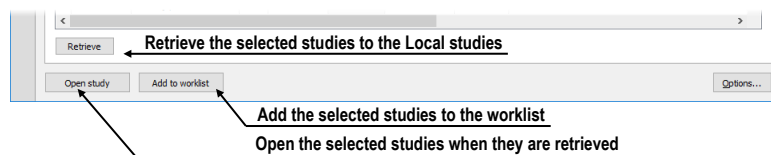

Figure 99 – The buttons for the operations with the selected studies
3. Select the study from the list and (see Figure 99):